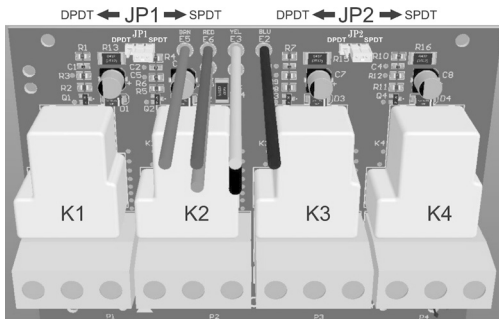

Figure 3.
6. By adjusting the two configuration jumpers on the board, JP1 and JP2 (see Figure 3), the relays can be paired to create different relay types as illustrated in the table below (right).